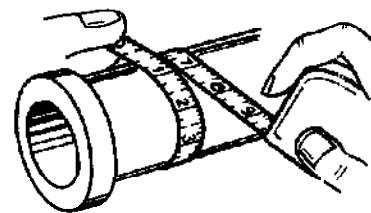

Fig. 2-12 Measuring a circumference with a push-pull rule.
1. Pull the tape out a short distance. Hold the end close to the cylinder as shown in figure 2-12.
- Note which graduations are in line where the tape crosses at the starting point. If the 1-inch and 7-inch graduations are in line (figure 2-12), the circumference is found by subtracting the 1-inch reading from the 7-inch reading. This leaves 6 inches as the circumference measurement.